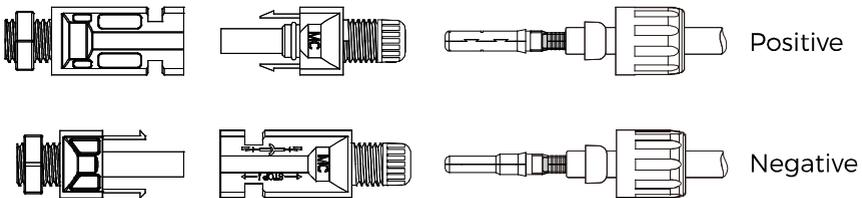

Figure 4-6 Connecting DC input power cables
4. Insert the stripped positive and negative power cables into the positive and negative metal terminals respectively and crimp them using a clamping tool. Ensure that the cables are crimped until they cannot be pulled out by force less than 400 N, as shown in Figure 4-6.